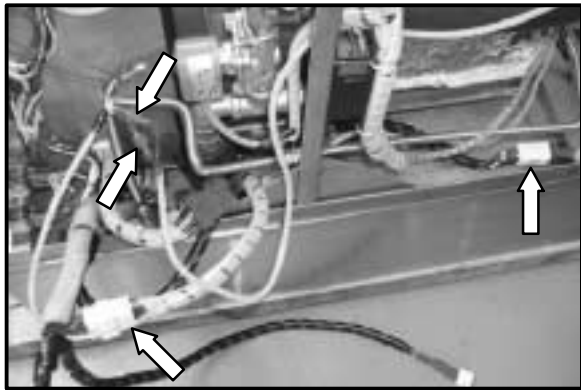

Figure 22
15. Disconnect the electrical wire harnesses (J2, J4, J5, and J6) that connect the lower oven section to the oven base section. See Figure 22. Mark connections prior to disconnecting for ease of re-assembly.